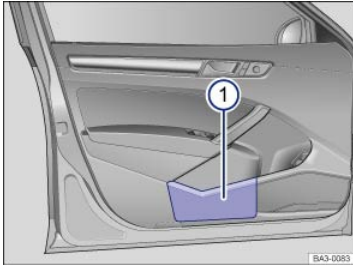

Fig. 101 In the driver door: Storage compartment.
There is a storage compartment in the driver door ⇒ Fig. 101 ①. In the front passenger door a storage compartment can be found in the same position. At the rear of the compartment there is an area that might be used for storing a safety vest.